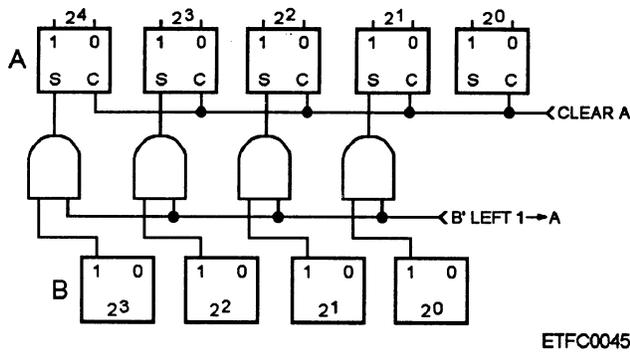

Figure 4-28.—Example of a single-line parallel displaced transfer.
- **Displaced** —Displaced is also similar to the single-line parallel transfer except the set side outputs of the sending register are gated to the set side inputs of the receiving register one or more orders to the right or left. Refer to figure 4-28 as an example of a displaced transfer.